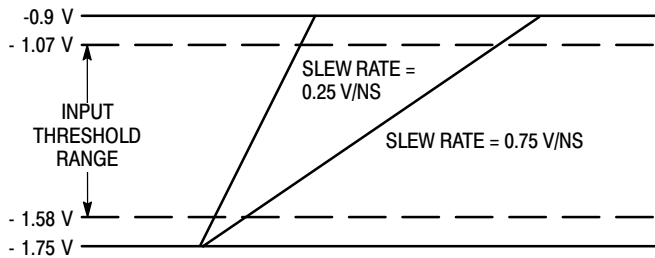
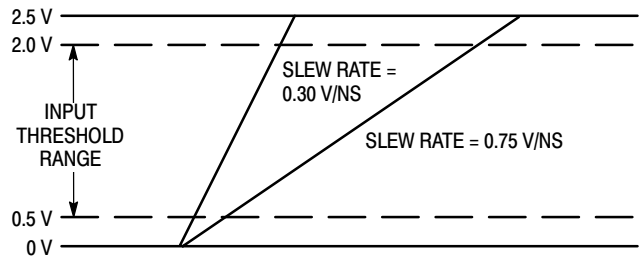

Figure 4. ECL Dispersion Test Input Conditions
Figure 5. TTL Dispersion Test Input Conditions
- Refer to figure 4 and note that the input is at 850mV ECL levels with the input threshold range between the 20% and 80% points. The delay is measured from the crosspoint of the input signal and the threshold value to the crosspoint of the Q and \bar{Q} output signals.
- Refer to Figure 5 and note that the input is at 2.5 V TTL levels with the input threshold range between the 20% and 80% points. The delay is measured from the crosspoint of the input signal and the threshold value to the crosspoint of the Q and \bar{Q} output signals.
Figure 4 and Figure 5 define a range of input conditions which incorporate varying input slew rates and input voltage overdrive. For input parameters that adhere to these constraints the propagation delay can be described as: